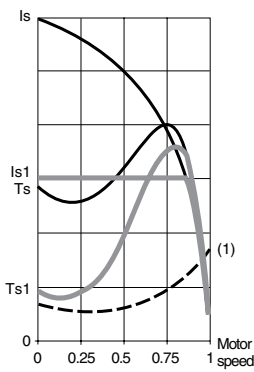

Figure 1
- Figure 1 shows the behavior of the torque in relation to the starting current. Limiting the starting current  $I_s$  to a preset value  $I_{s1}$  will reduce the starting torque  $T_{s1}$  to a value which is almost equal to the ratio of the square of currents  $I_s$  and  $I_{s1}$ .